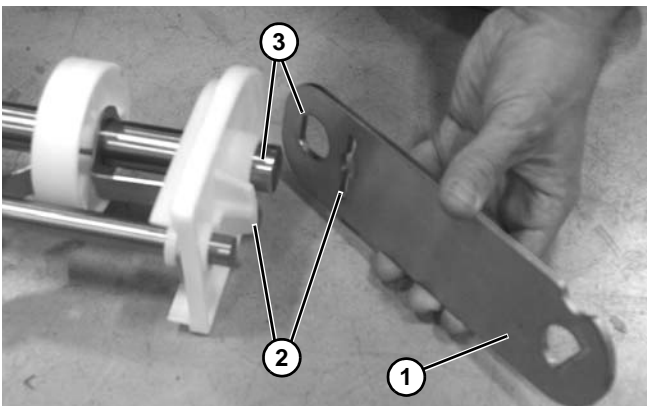

Figure 68
5. Remove tail plate (**Figure 68, item 1**) from assembly, making note of orientation of tab (**Figure 68, item 2**) and mating surfaces of puck rod (**Figure 68, item 3**) and tail plate.